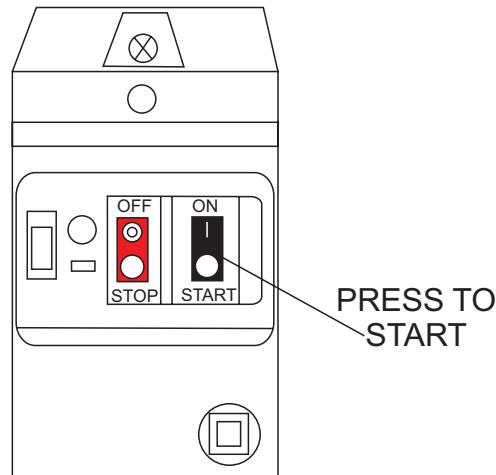

Figure 24. Electric Motor ON/OFF Switch (Start)
3. To start the electric motor, press the black **ON/START** switch (Figure 24).